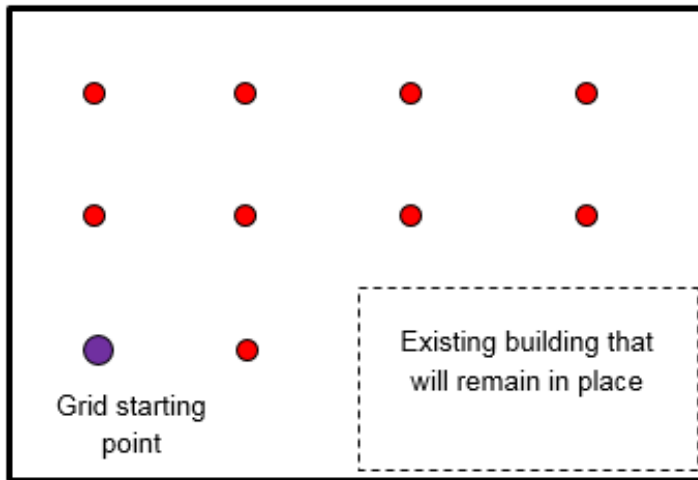

Figure 2. Laying out a sampling grid
For each decision unit diagram, prepare a sampling grid (Figure 2):
Step 3: Start with this point and begin laying out sample points in an evenly spaced grid (Figure 2). Use the number of locations from Table 1. Grid points should cover as much area as possible. Adjust the grid or add locations to make it fit.